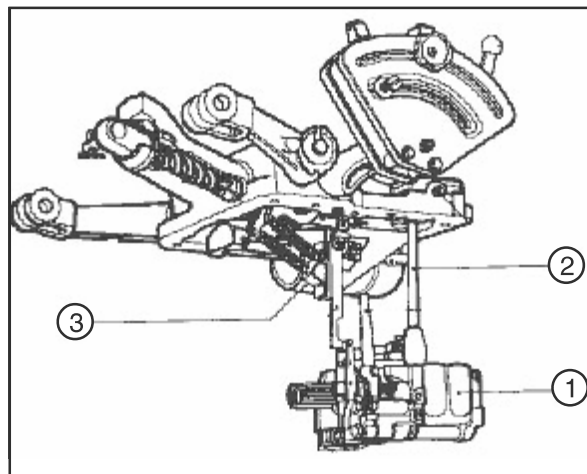

Fig 1
**11A . 2 GENERAL DESCRIPTION****General: Fig 1**